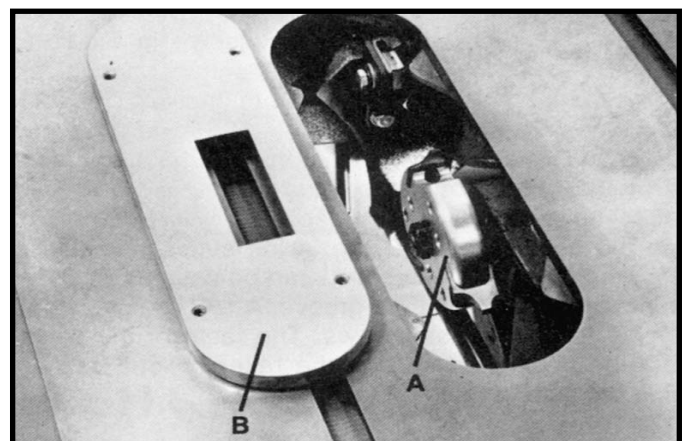

Fig. 135
The moulding cutterhead (A) Fig. 135, is assembled to the saw arbor as shown. Also, the accessory moulding cutterhead table insert (B), must be used in place of the standard table insert.